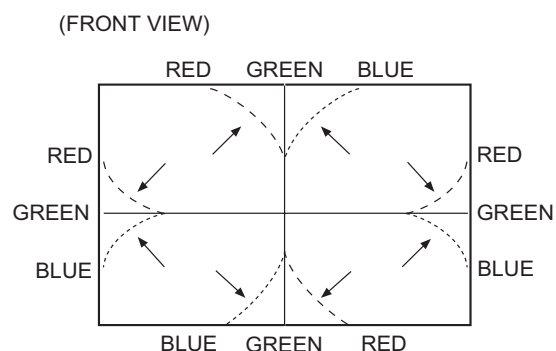

Fig. 5
- (1) Move the deflection yoke up and down and overlap the lines in the periphery. (Fig. 5)